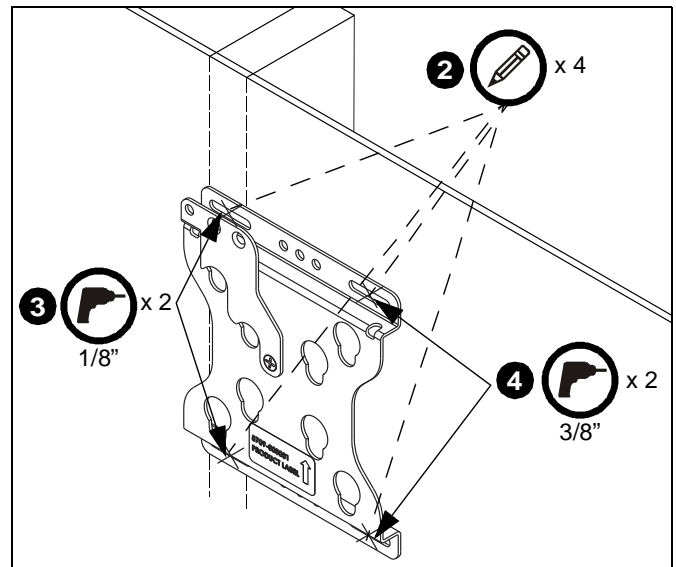

Figure 2
2. Level FSR1U/FSR100 assembly (A) at desired height and, using it as a template, mark the location of the four anchor holes (one in each corner slot). (See Figure 2)
3. Drill 1/8" pilot holes in wood stud locations. Ensure pilot holes are straight. (See Figure 2)
4. Drill 3/8" anchor holes in the other two marked locations. Ensure holes are straight and completely through drywall. (See Figure 2)